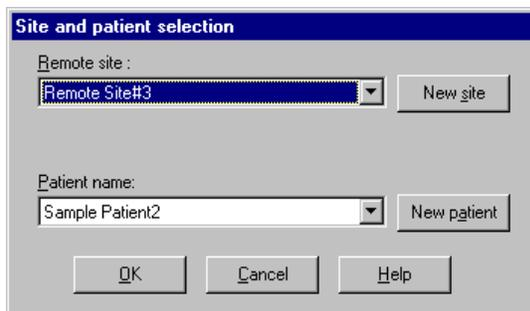

Fig. 15. Site and patient selection dialog box
1. On the menu, select **Download** and then **Direct Download**, or select **Download** on the toolbar. The Site and patient selection dialog box is displayed (Fig. 15).